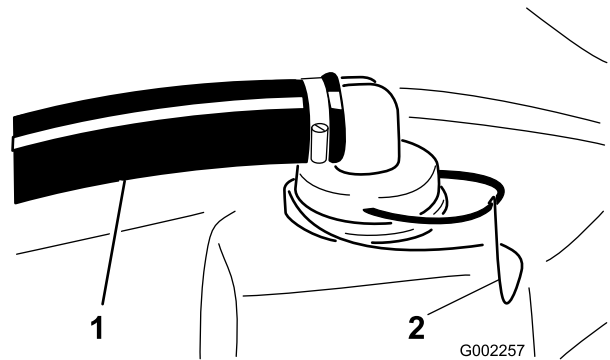

Figure 63
2. Remove the retainer from the red fitting attached to the large hose on the top of the tank (Figure 63).
3. Disconnect the hose from the tank (Figure 63).